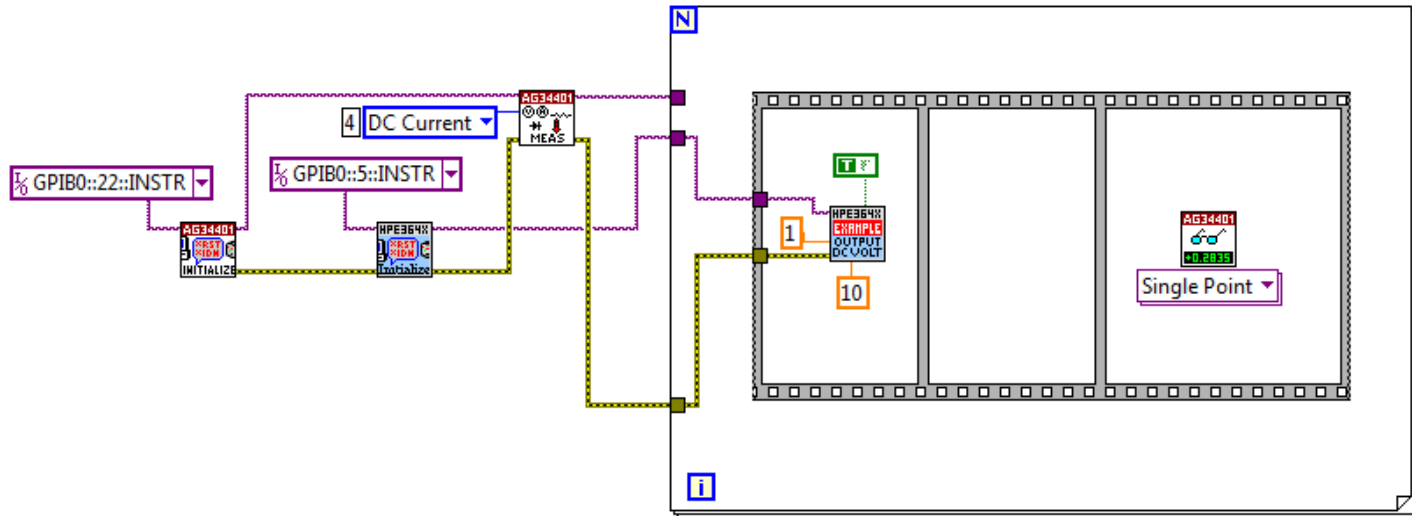

Figure 9. Diagram Schematic
12. At this point your diagram should look similar to that shown in Figure 9.